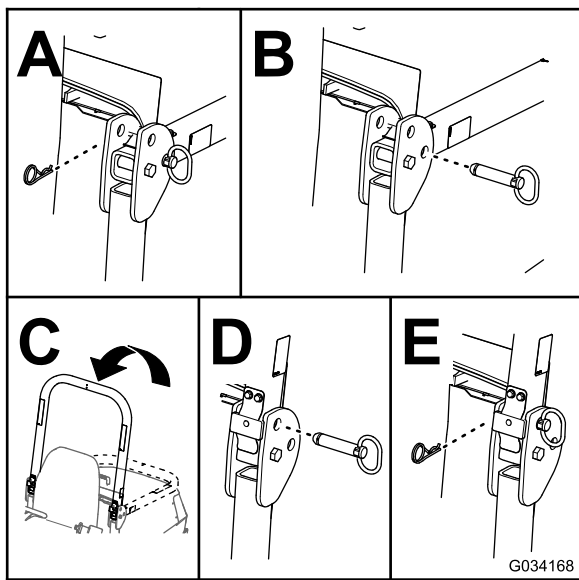

Figure 34
2. Remove the cotter pins and pins from the roll bar (Figure 34).
3. Raise the roll bar and secure it in place with the pins and cotter pins (Figure 34).